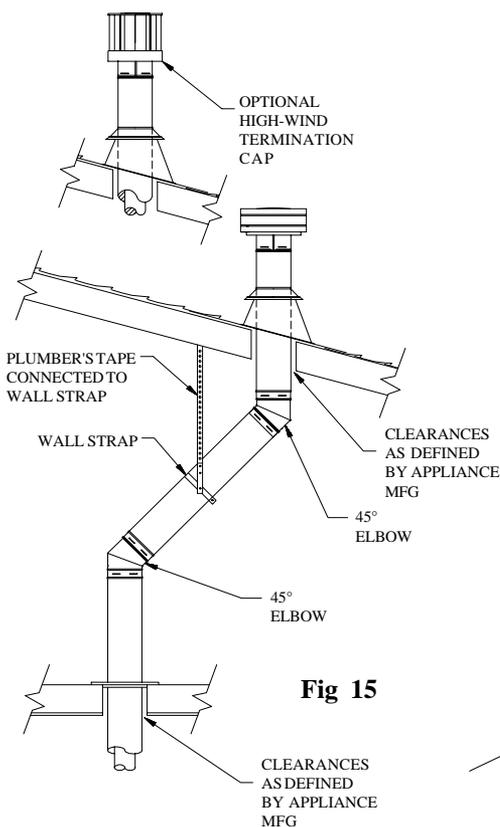
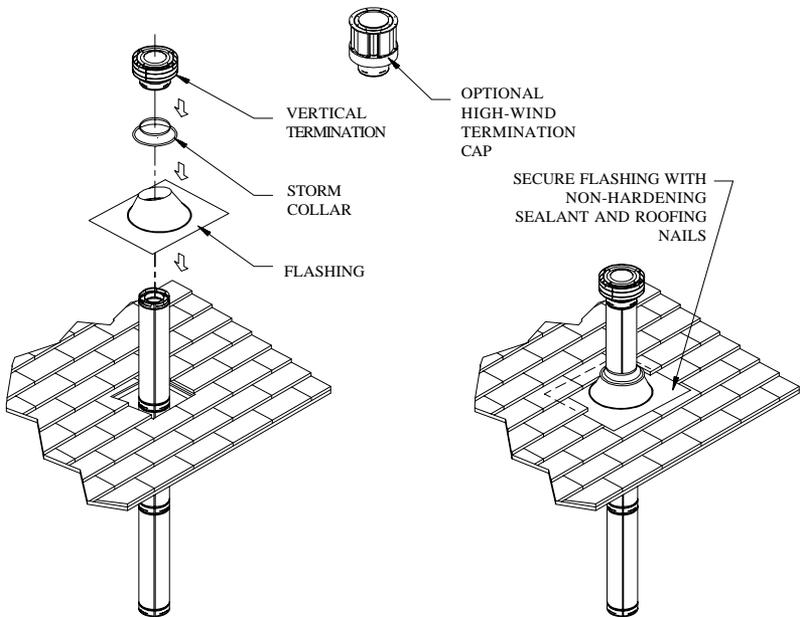

Fig 15
Fig 17
(1) If an offset is necessary in the attic to avoid obstructions, it is important to support the vent pipe every 3 feet, to avoid excessive stress on the Elbows, and possible separation. Wall Straps are available for this purpose. (Fig 15)
(2) Whenever possible, use 45° Elbows, instead of 90° Elbows. The 45° Elbow offers less restriction to the flow of flue gases and intake air.
Step 7. Slip the flashing over the Pipe Section(s) protruding through the roof. Use a non-hardening sealant between the Flashing and the roof to prevent water leakage. Secure the base of the Flashing to the roof with roofing nails. Insure the roofing material overlaps the top edge of the Flashing as shown in Fig 17. Verify that you have at least the minimum clearance to combustibles at the roofline.
Step 9. Slip the Storm Collar over the Pipe, and push it down to the top of the Flashing, as shown in Fig 17. Use the non-hardening sealant above and below the joint between the Storm Collar and the Pipe.